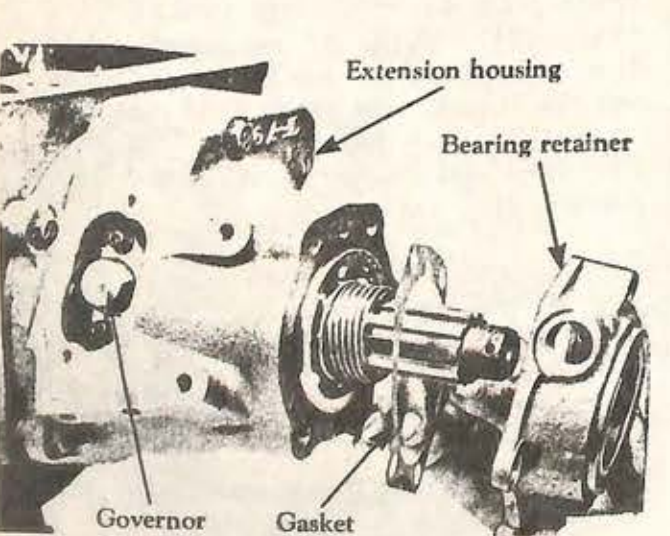

Fig. 39
3. Remove the mainshaft bearing retainer attaching capscrews and lockwashers. Remove retainer and gasket (Fig. 39).